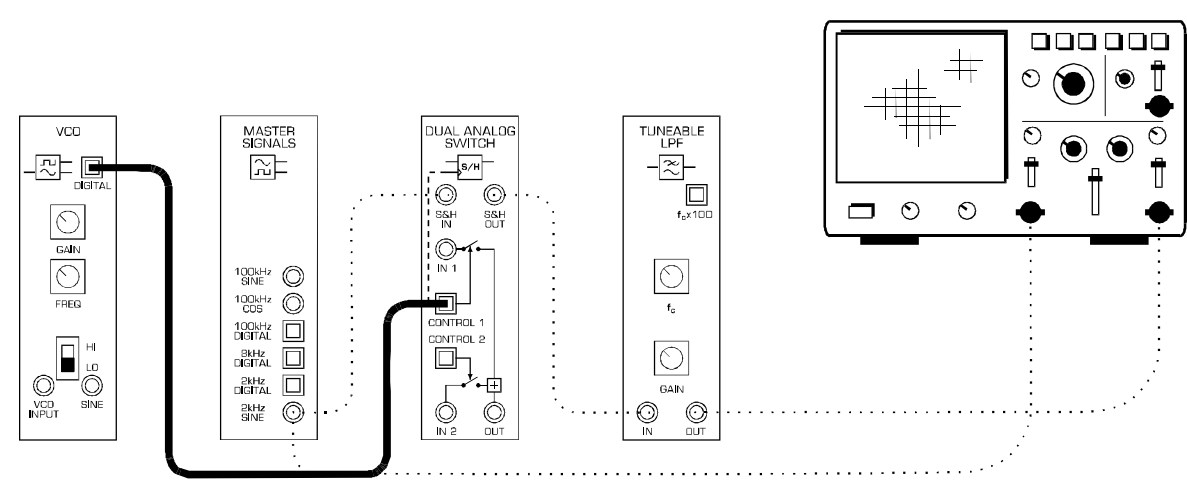

Figure 9
22. Modify the set-up as shown in Figure 9 below.